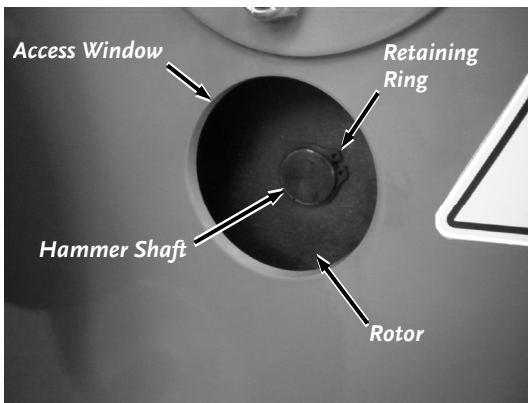
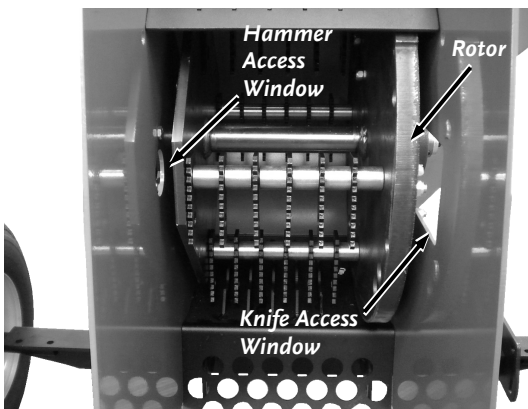

Figure 45
Figure 46
11. Use a Stick to rotate the Rotor until the Hammer Shaft (**Figure 45**) is lined up with the Hammer and Knife Access Windows (**Figure 46**).
12. Remove the Retaining Ring that holds the Hammer Shaft to the Rotor, using Retaining Ring Pliers (**Figure 45**).